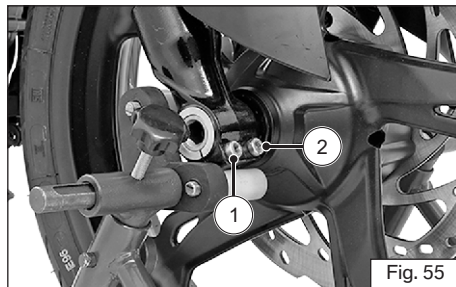

Fig. 55
- ◆ Loosen the left side clamping screws (1) and (2) (ref. Fig. 55).
- ◆ Install the clamping screws (1,2,4 & 5) and tighten to the specified torque (ref. Fig. 55 & 56).